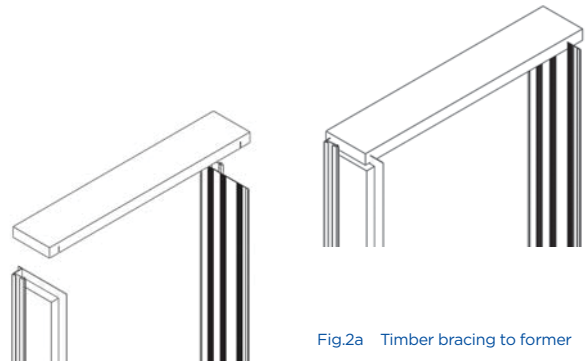
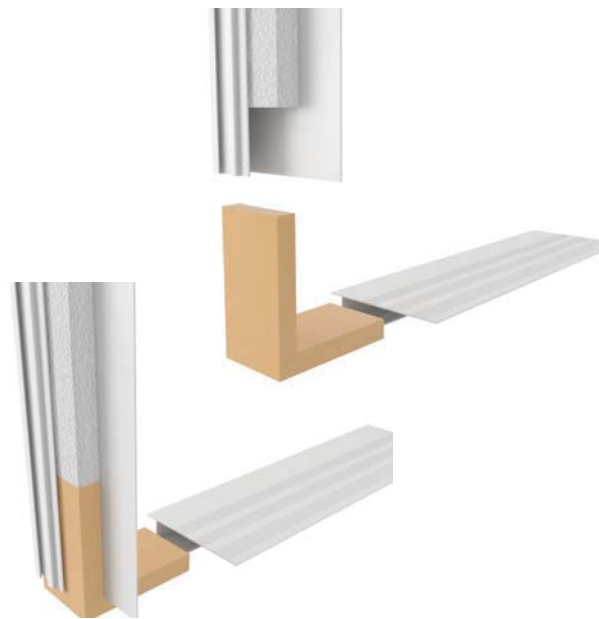

Fig.2a Timber bracing to former
Fig.2b Formed closer using CCFORM
- In first fix applications the cavity closer should be nailed to the jamb/sill of the door or window frame and the whole assembly built in as work proceeds. Alternatively the closer can be built in sections using fixing ties as work proceeds or pre built to act as an opening former by using a timber brace (see fig.2a) and corner forms (see fig.2b)